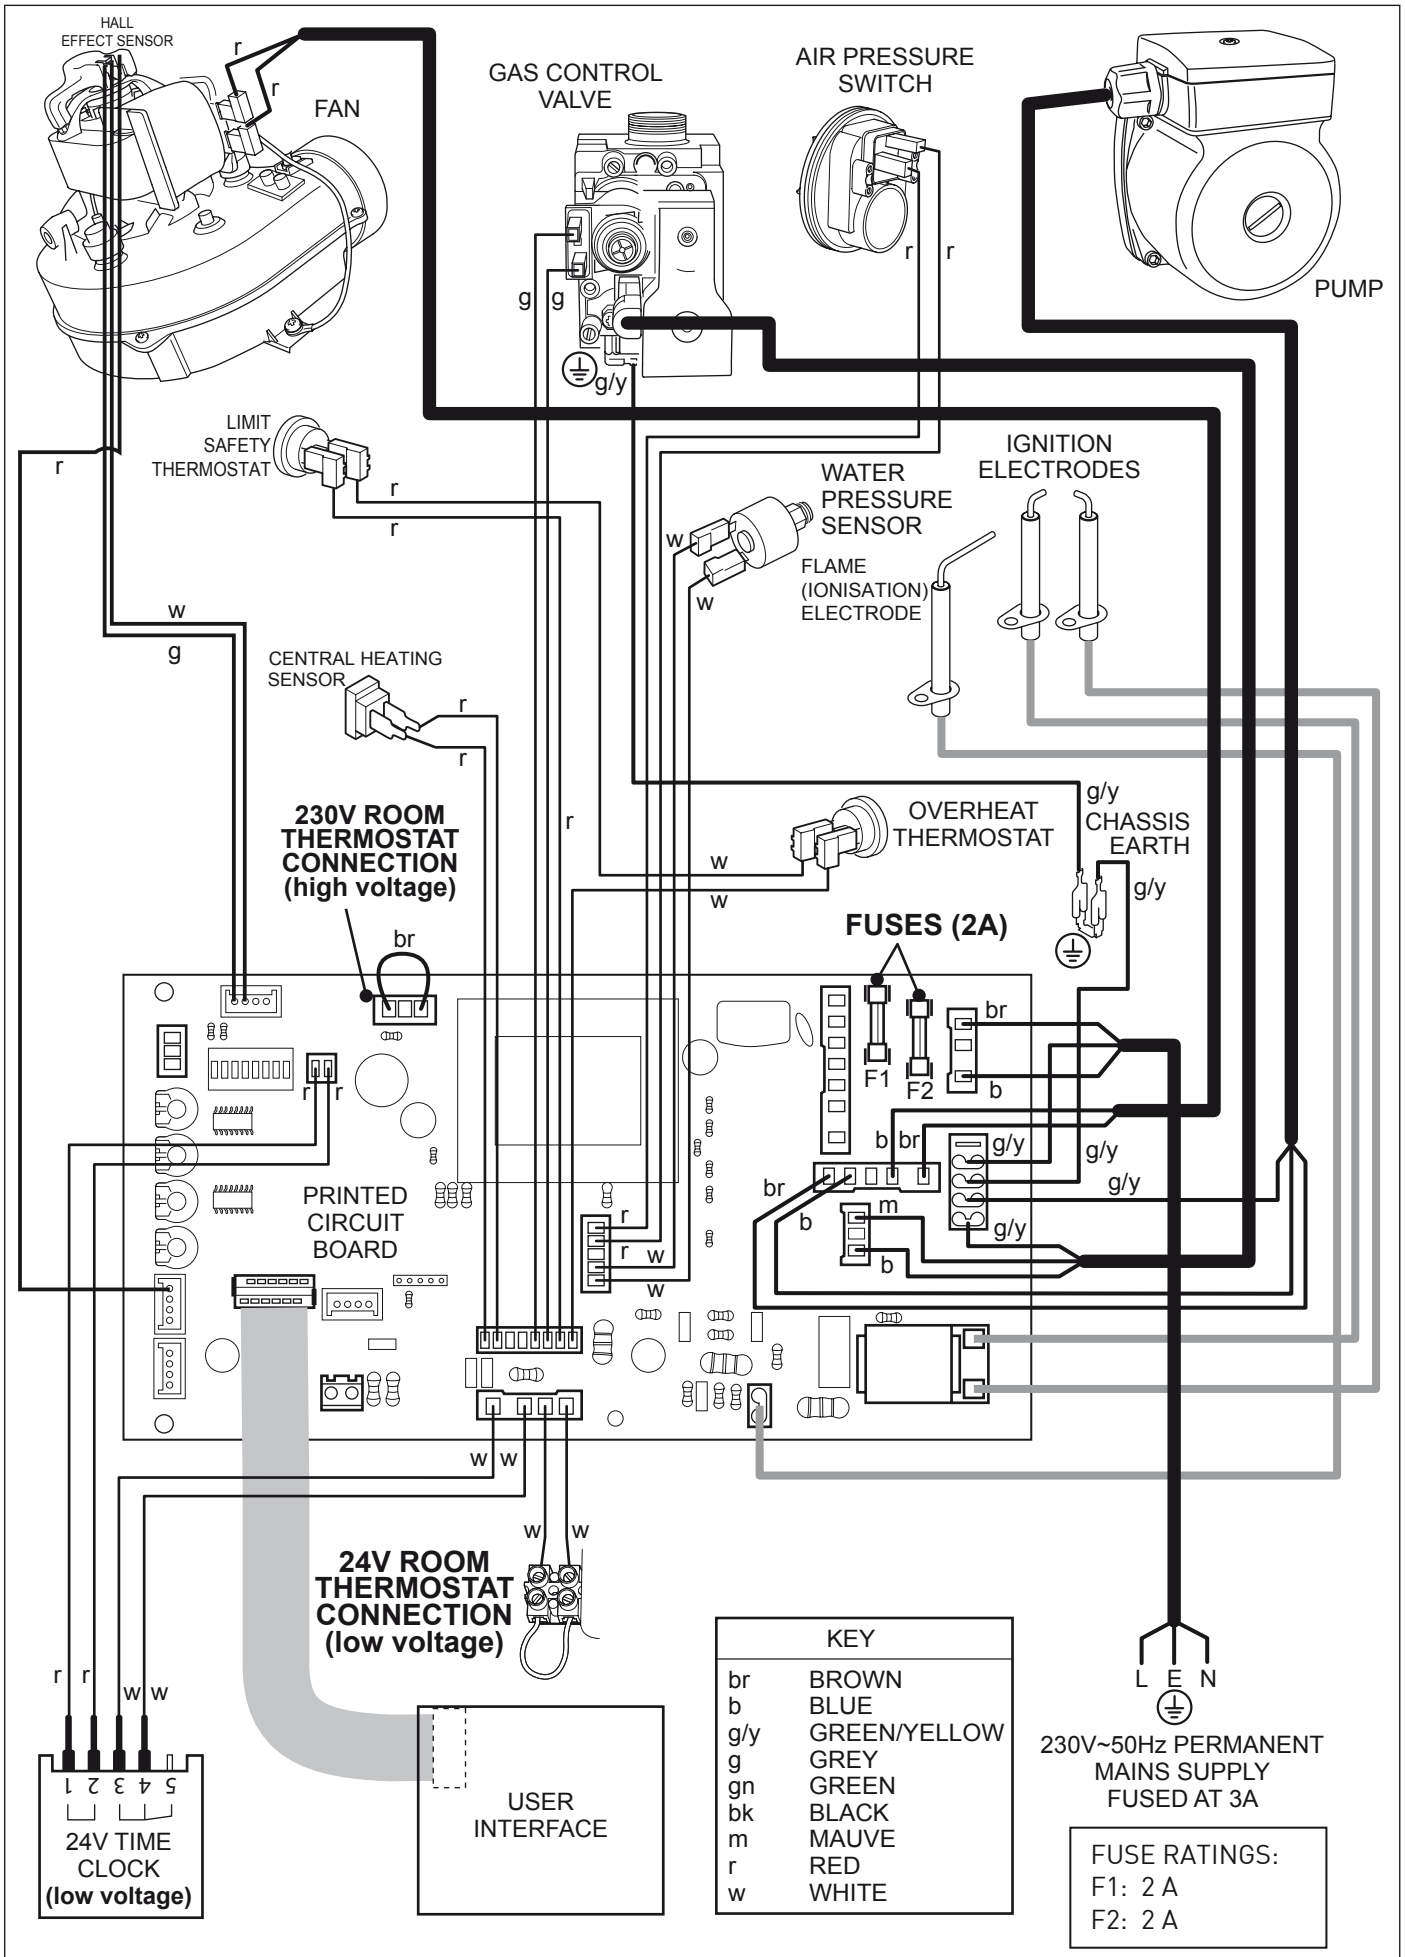

Figure 9.3
**9.8** On connecting the mains electrical supply to the boiler, it is essential to ensure that electrical safety checks for earth continuity, earth resistance, polarity and short circuit are carried out prior to making the final connection. A diagram of the boiler's electrical circuit is given as Figure 9.3.